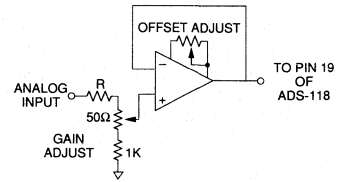
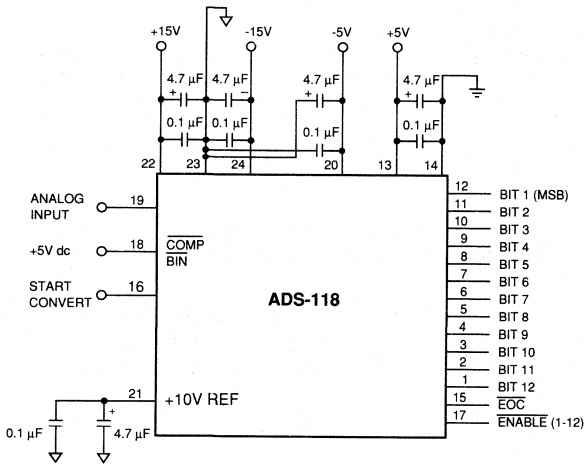

Figure 4a. Optional Bipolar Calibration Circuit
Figure 3. Typical ADS-118 Connection Diagram
1. Applications which are unaffected by endpoint errors or remove them through software will use the typical connections shown in Figure 3. Remove system errors or adjust the small initial errors of the ADS-118 to zero using the optional external circuitry shown in Figures 4a and 4b. The external adjustment circuit has no affect on the throughput rate.
1. Connect the converter per Figure 3 and Figure 4 for the appropriate full-scale range (FSR). Apply a pulse of 45 nano-seconds to the START CONVERT input (pin 16) at a rate of 250 KHz. This rate is chosen to reduce flicker if LED's are used on the outputs for calibration purposes.